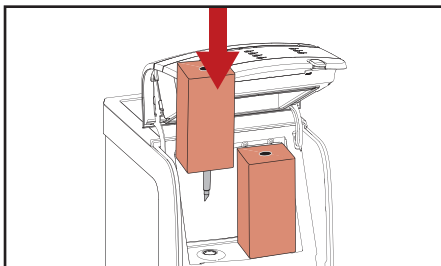

Fig. 4.1 - Place product pack
4. Insert the product pack (fig. 4.1).